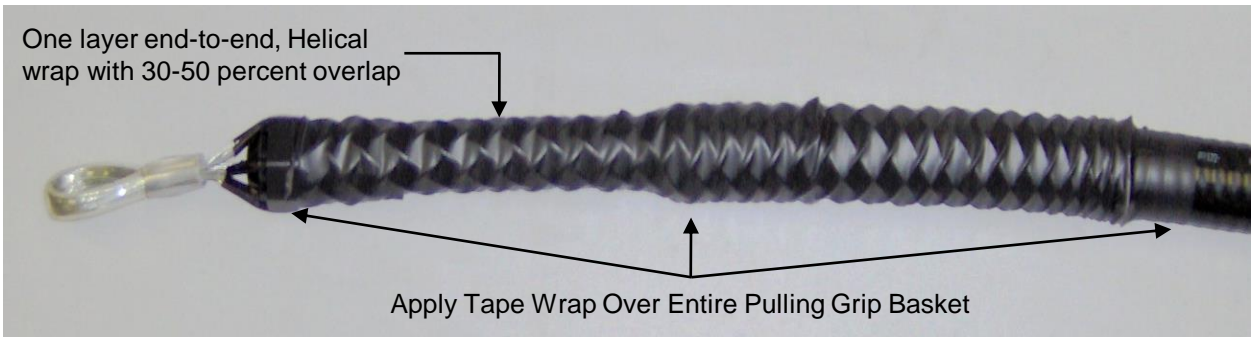

Figure 11
6.9 Apply Vinyl Electricians or Duct Tape over the entire length of the Pulling Grip's basket. Start the wrap on the Polyethylene outer jacket of the cable and move to the head end of the cable. Apply one layer of tape end-to-end with a Helical wrap and a 30-50 percent overlap. **See Fig. 11.**